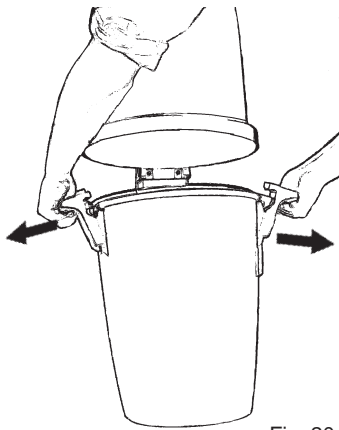

Fig. 20
1. Release the two handles clamping the dust container. Free them by pulling the handles outwards away from the container, Fig. 20.